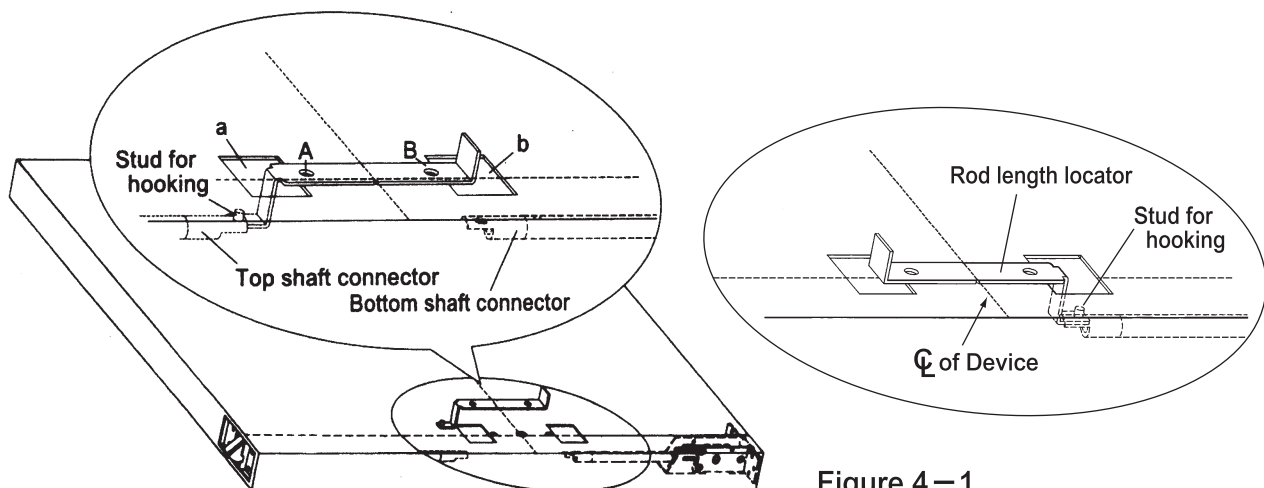

Figure 4-1
1. Place the rod length locator into cut-out holes of the door, hook up the holes of both shaft connectors in turn using the small stud of locator as shown the figures below. When the shaft connector is raised up, check A and B holes whether these 2 holes match with a, b holes which have been cut out on the door. (See Figure 4-1.)